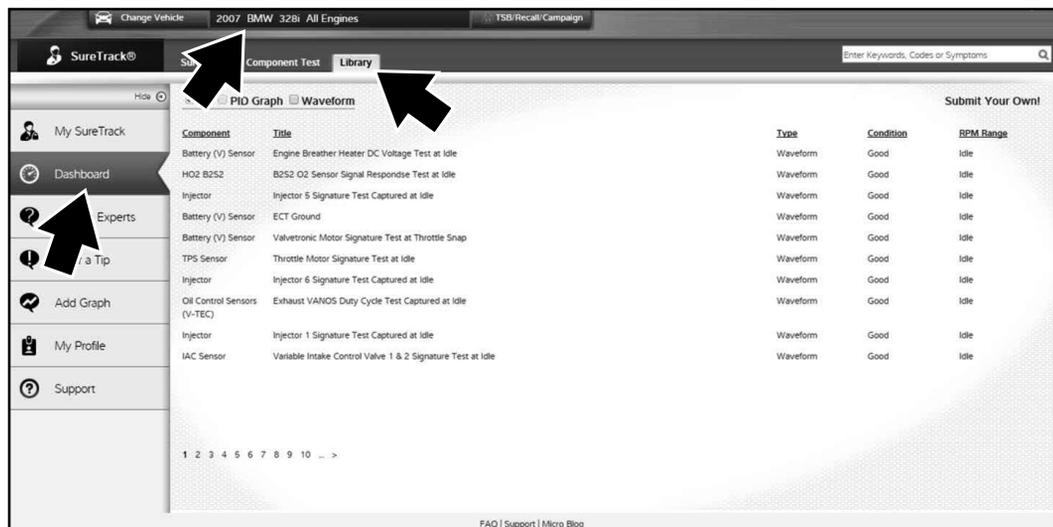

Figure 26 SureTrack - Library tab showing list of waveform examples
3. Enter (identify) the test vehicle details in the search field at the top of the screen (Figure 26).
4. Select the **Dashboard** tab (left side) (Figure 26).
If waveform and or PID graph examples are available, the **Library** tab will be displayed at the top (Figure 26).
5. Select the **Library** tab (Figure 26). A list of examples is displayed and sortable by selecting the PID Graph and or Waveform check boxes at the top.